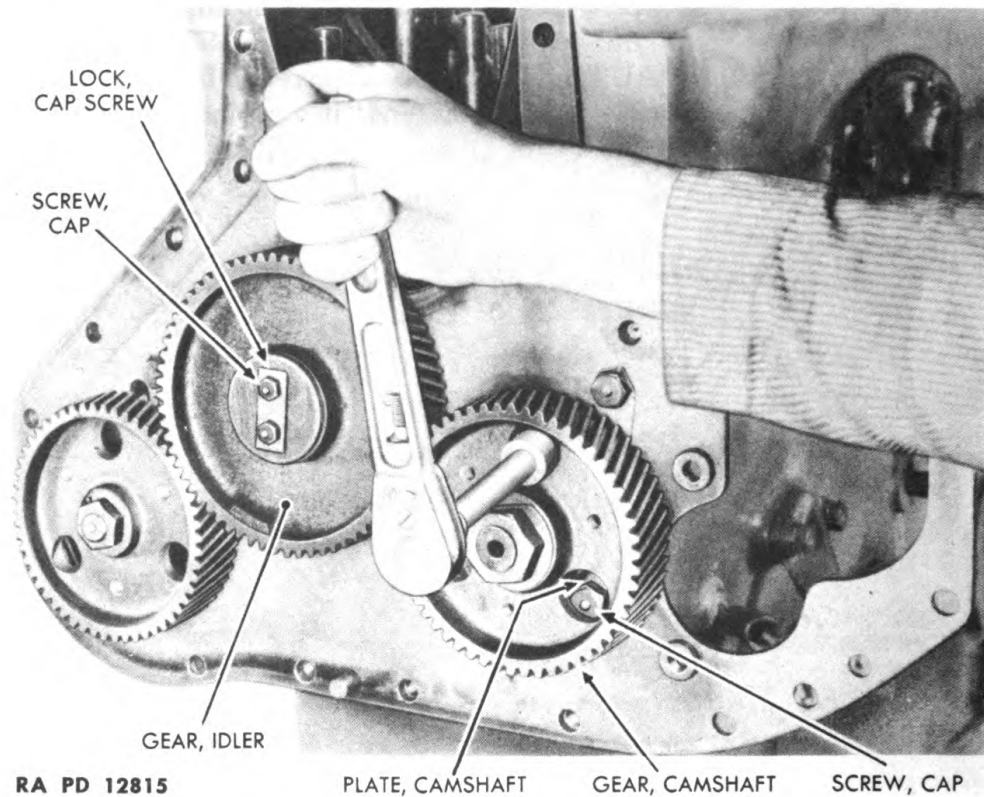

Figure 49—Disconnecting Camshaft Plate from Crankcase
(1) **DISCONNECT CAMSHAFT PLATE FROM CRANKCASE (fig. 49).**
(1) **REMOVE IDLER GEAR** (fig. 49).